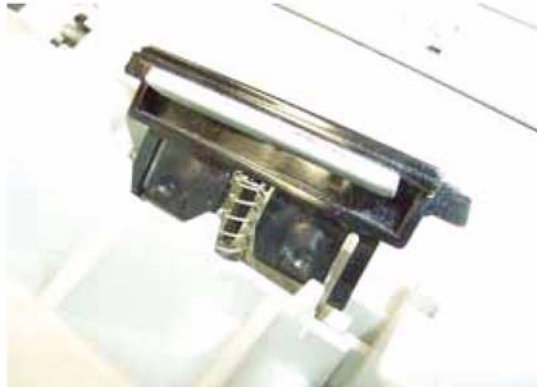

Figure 4
6. Release 2 hooks from below, Figure 4.